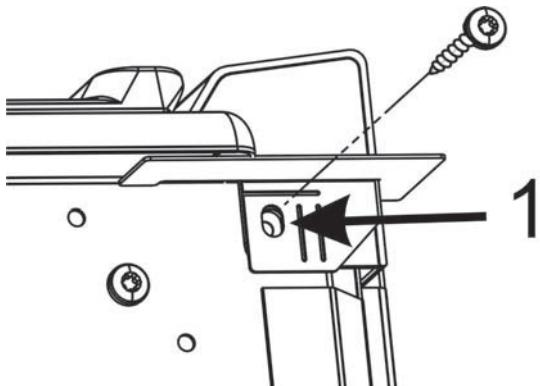

Figure 4: Screw placement
- Insert screw (saved or from the kit) into hole 1 and lightly tighten (see Figure 4: Screw placement).